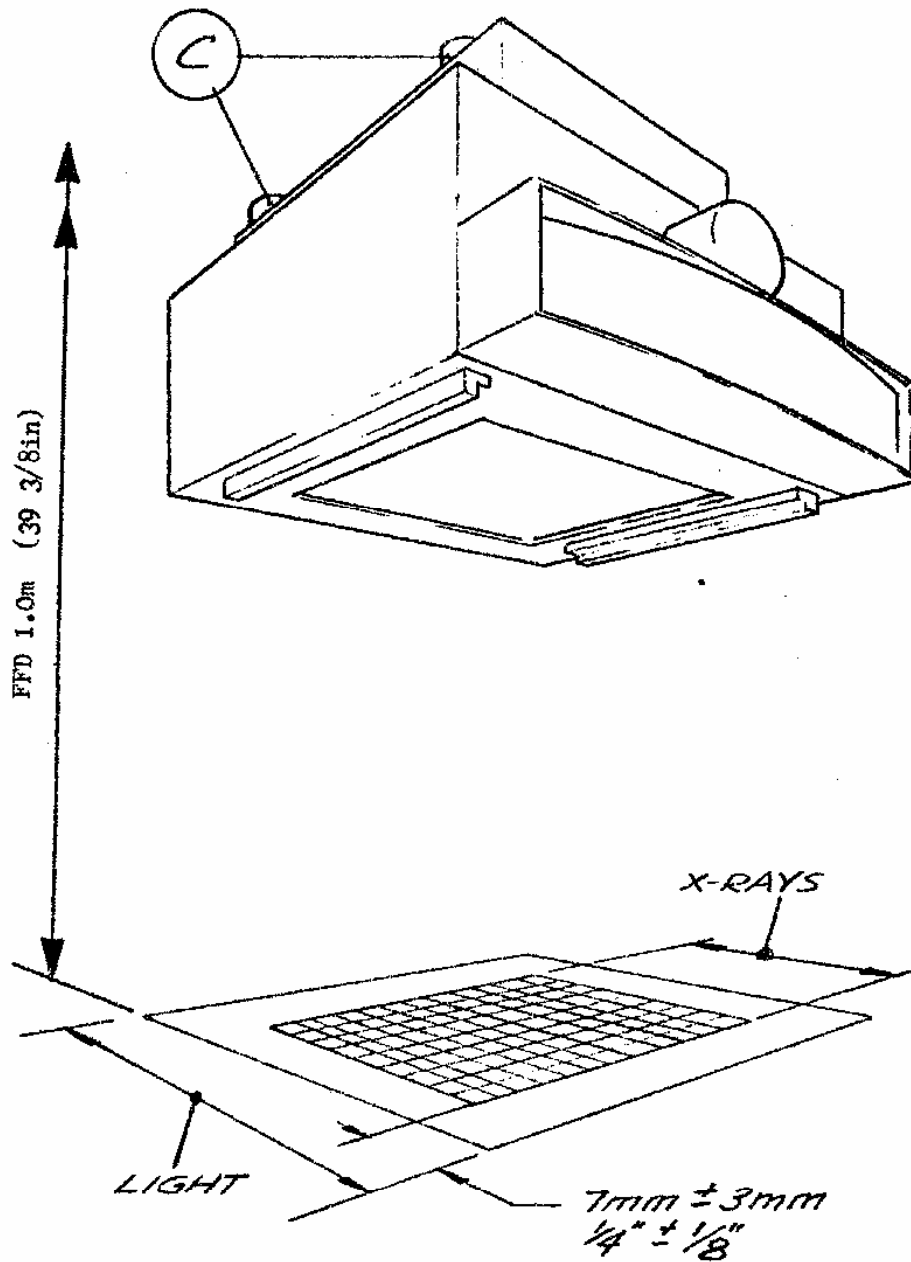

Fig 4. LBD X-RAY & LIGHT COVERAGE
6.4 Alignment of X-ray and Light beam Refer to Fig4.